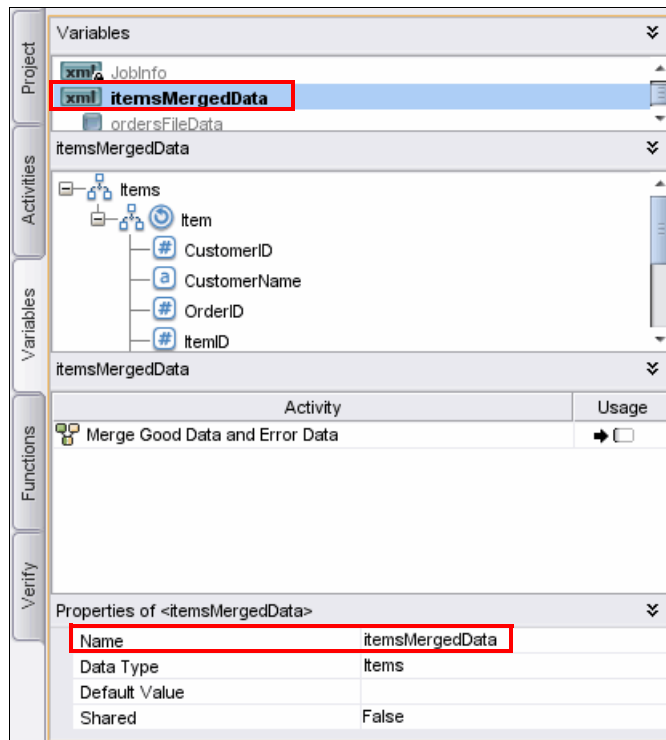

Figure 12-63 Renaming the mergeXML variable to itemsMergedData
- Now, give a proper name to the variable copied in the Map Outputs panel. Select the Variables tab. Find and select the variable named **mergedXML**. Rename it to **itemsMergedData** in the properties panel located at the bottom, as shown in Figure 12-63.